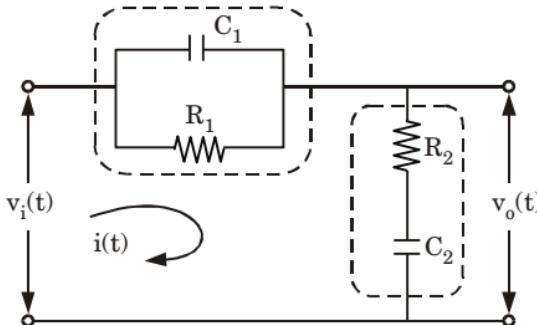

Fig. 5.7.1. Lead-lag compensator in time-domain.
Lead-lag compensator is combination of lead network and lag network. From Fig. 5.7.1, we have
2. Applying Kirchhoff's voltage law to the shown Fig. 5.7.1 network